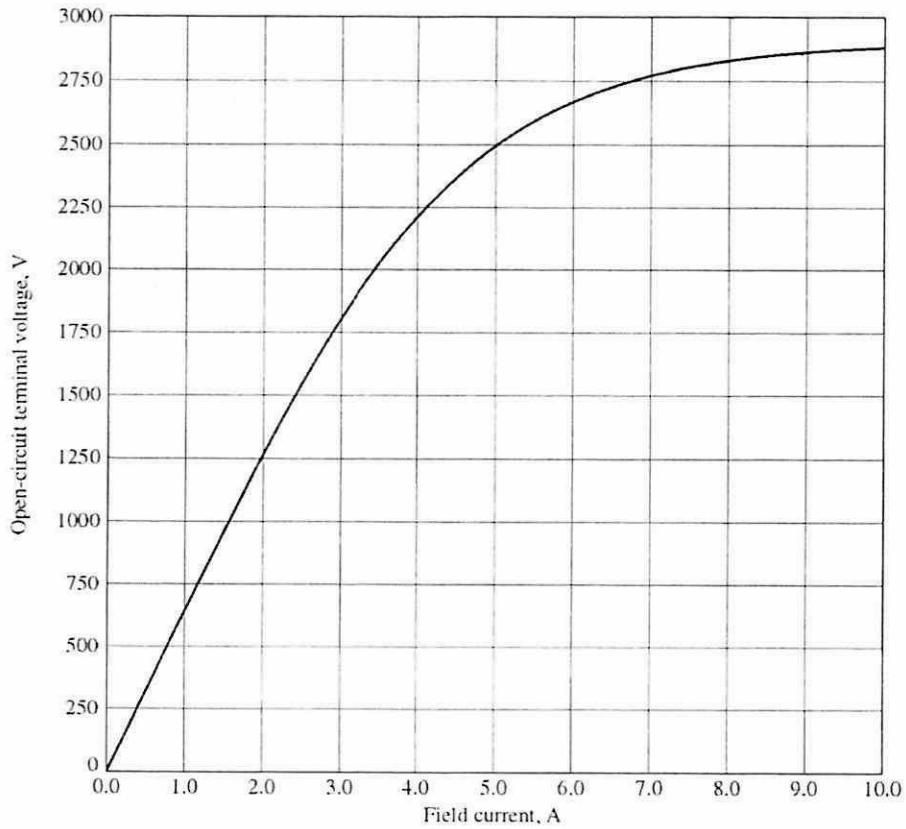

Figure Q1(b)
- Q1** (a) List **TWO (2)** types of rotors used in synchronous generator. (2 marks)
- (b) A 2500 V, 1200 kVA, 0.80 power factor (PF) lagging, four-pole, Δ -connected synchronous generator has a synchronous reactance of 1.4Ω and an armature resistance of 1.2Ω . At 60 Hz, its friction and windage losses are 25 kW, and its core losses are 15 kW. The field circuit has a DC voltage of 220 V, and the maximum I_F is 10 A. The resistance of the field circuit is adjustable over the range from 22 to 200 Ω . The Open Circuit Characteristic (OCC) of this generator is shown in **Figure Q1(b)**.
- Q2** (a) List **THREE (3)** reason if a 3-phase synchronous motor fails to start. (3 marks)